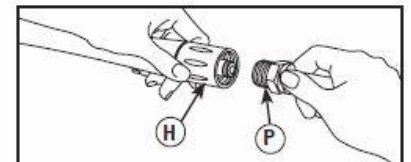

Fig. 10
4. Attach nozzle extension (P) to spray gun (H). Tighten by hand. (See Fig. 10)